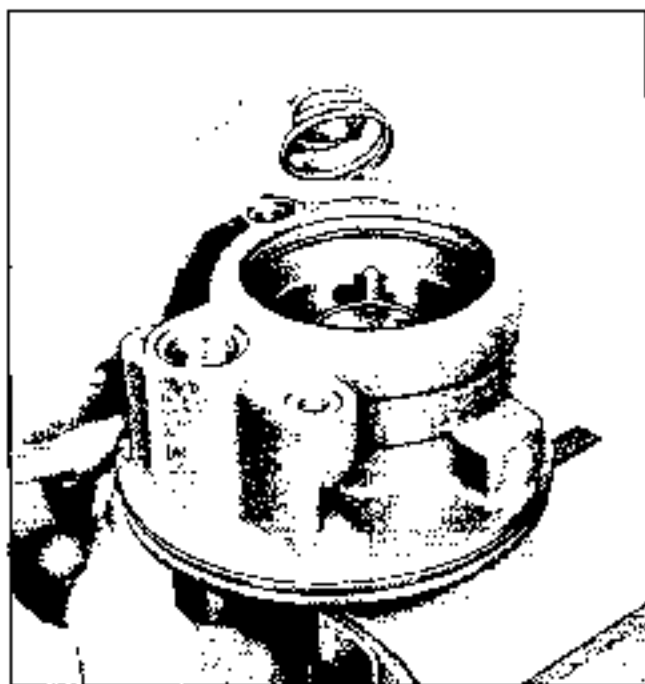

Fig. 9-86 Installing Pressure Plate Spring
9. Install pressure plate spring in center groove of pressure plate (Fig. 9-86).